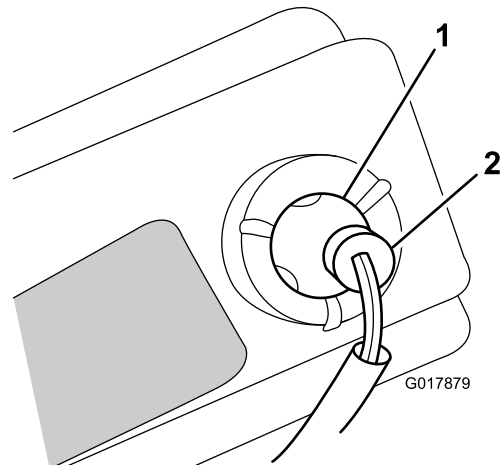

Figure 32
6. Pull out the bulb socket (Figure 32).